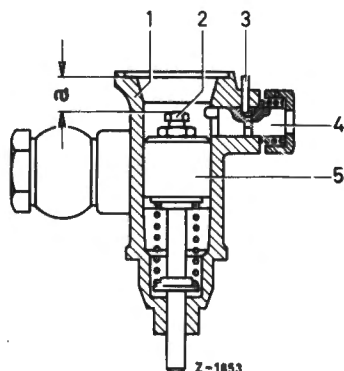

Fig. 00-16/24
2. To remove the slide valve on the ZEA pump unscrew the threaded union (55) and take out the spring (54) (Fig. 00-16/22). Turn in a coil spring with an outside diameter of 12 mm, in the opposite direction to the twist, then lock it by turning it in the direction of twist and pull out together with the slide valve. Do not use sharp-edged objects, such as screws, which would damage the bore.
In the case of ZEB injection pumps unscrew the cooling water thermostat from the control slide valve housing and measure the distance (a) from the separating surface of the control slide valve housing to the adjustment screw (2) (Fig. 00-16/24). Then pull the notched pin (3) out of the control slide valve housing and the eccentric stop bolt (4) as far as the oil filler screw. Then pull the control slide valve (5) together with the adjustment screw out of the control slide valve housing and, depending on the temperature difference between the cooling water temperature measured and the prescribed value of 68°C , turn the adjustment screw in or out. Turn the screw in if the temperature is below 68°C , turn it out if it is higher.